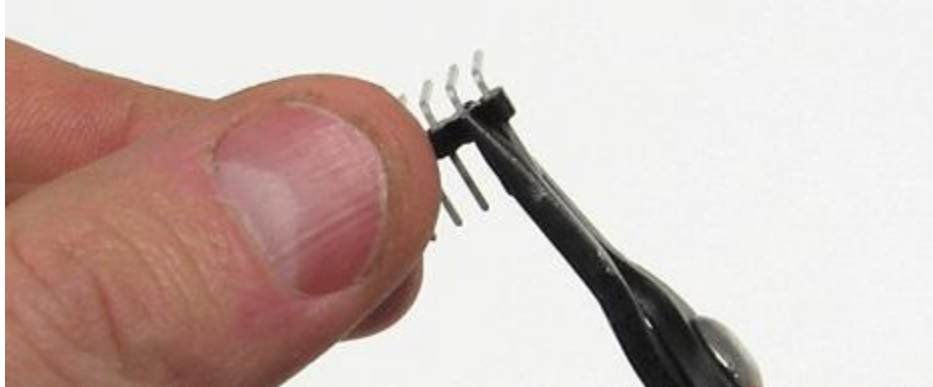

Figure 10A. Jump wires connecting power and ground from one side of the breadboard to the other.
- 3. Using pliers or scissors, break off a two-segment piece of the 36-prong bent connector included in the Starter Kit, making a two-prong connector, as shown in Figure 10A. *NOTE: Be sure to keep the remaining segments for future projects.***